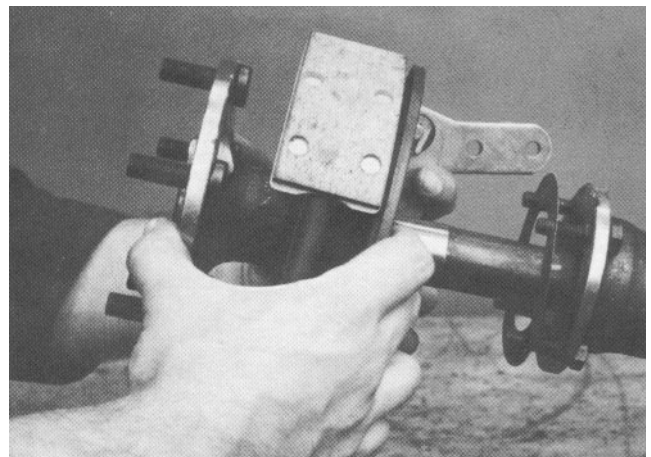

Figure 7
3. Pull out the axle shaft and brake assembly (Fig. 7).